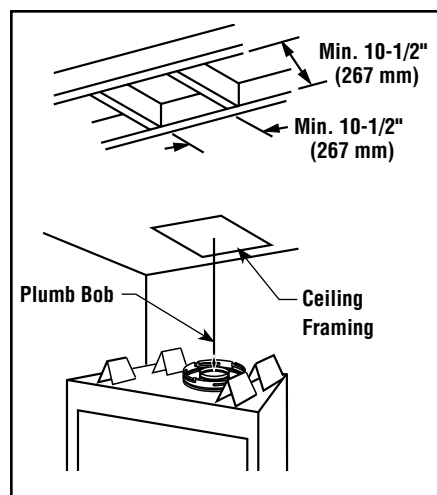

Figure 17 - Ceiling Opening Framing
A. Frame ceiling opening. Use a plumb line from the ceiling above the appliance to locate center of the vertical run. Cut and/or frame an opening, 10-1/2" x 10-1/2" (267 mm x 267 mm) inside dimensions, about this center mark (**Figure 17**).
If the vertical route is to penetrate a ceiling, use plumb line to locate the center above the appliance. Cut and/or frame an opening, 10-1/2" x 10-1/2" (267 mm x 267 mm) inside dimensions, about this center (refer to **Figure 17 on Page 18**).